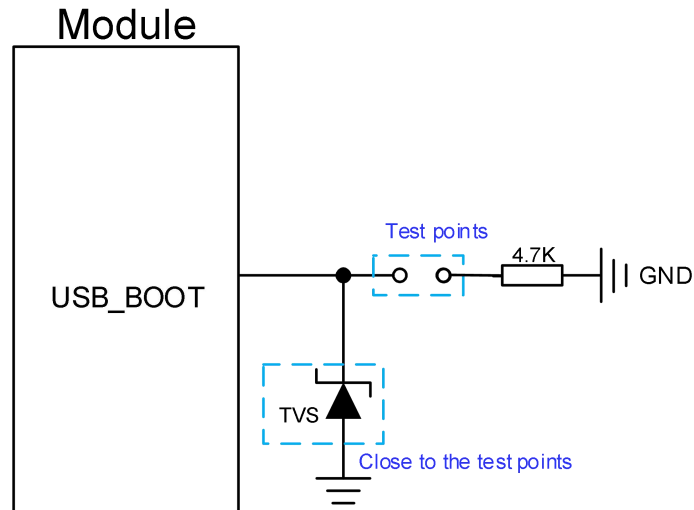

Figure 17: Reference Design of USB_BOOT
2. Follow the above timing when using MCU to control module to enter the forced download mode. Directly connect the test points as shown in **Figure 17** can manually force the module to enter download mode.